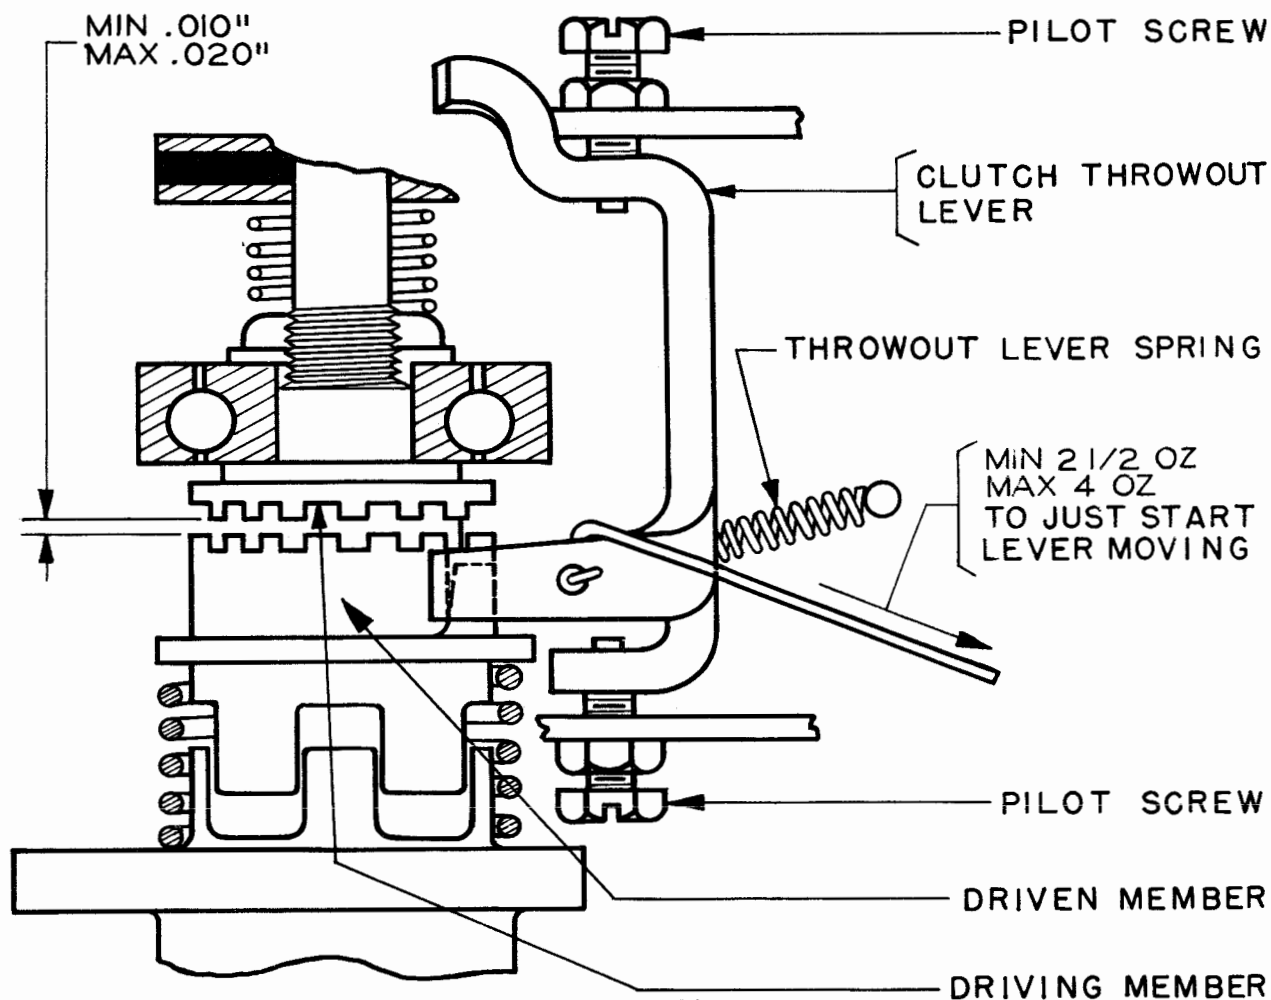

Figure 21
when the clutch is fully cammed out of engagement. See Figure 21.
2.36 Clutch-throwout-lever Spring should have a tension of minimum 2-1/2 ounces, maximum 4 ounces, measured at right angles to the throwout lever but with the clutch teeth fully engaged. See Figure 21.